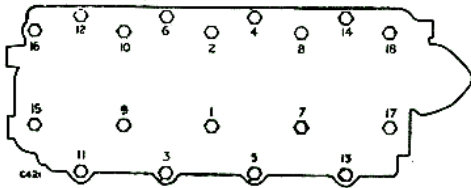

Fig. A-420—Order of tightening cylinder head bolts
7. Tighten down the cylinder head bolts in the order indicated by Fig. A-420. The  $\frac{1}{2}$  in. U.N.F. bolts, including those that also secure the rocker brackets must be pulled down to 75 lb/ft. (10,3 Kg/m) whilst the  $\frac{5}{16}$  in. U.N.F. bolts securing the rocker brackets only are pulled down to 12-13 lb/ft. (1,6-1,7 Kg/m).